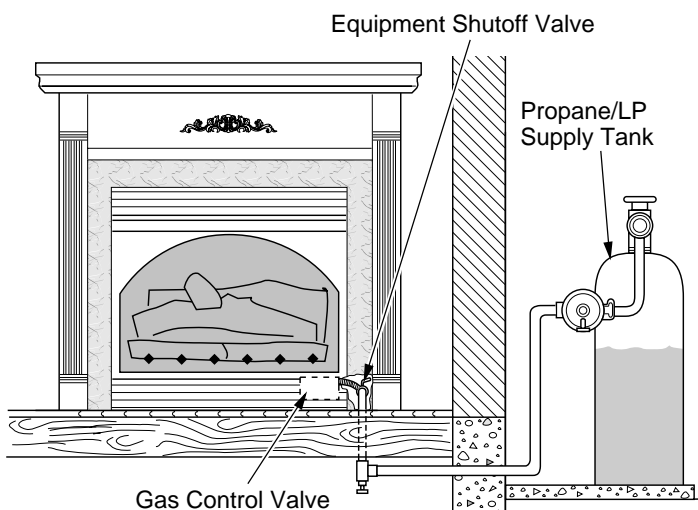

Figure 22 - Checking Gas Joints
3. Check all joints from propane/LP supply to equipment shutoff valve (see Figure 22). Apply noncorrosive leak detection fluid to all joints. Bubbles forming show a leak.
4. Check all joints from equipment shutoff valve to thermostat gas valve (see Figure 22). Apply noncorrosive leak detection fluid to all joints. Bubbles forming show a leak.